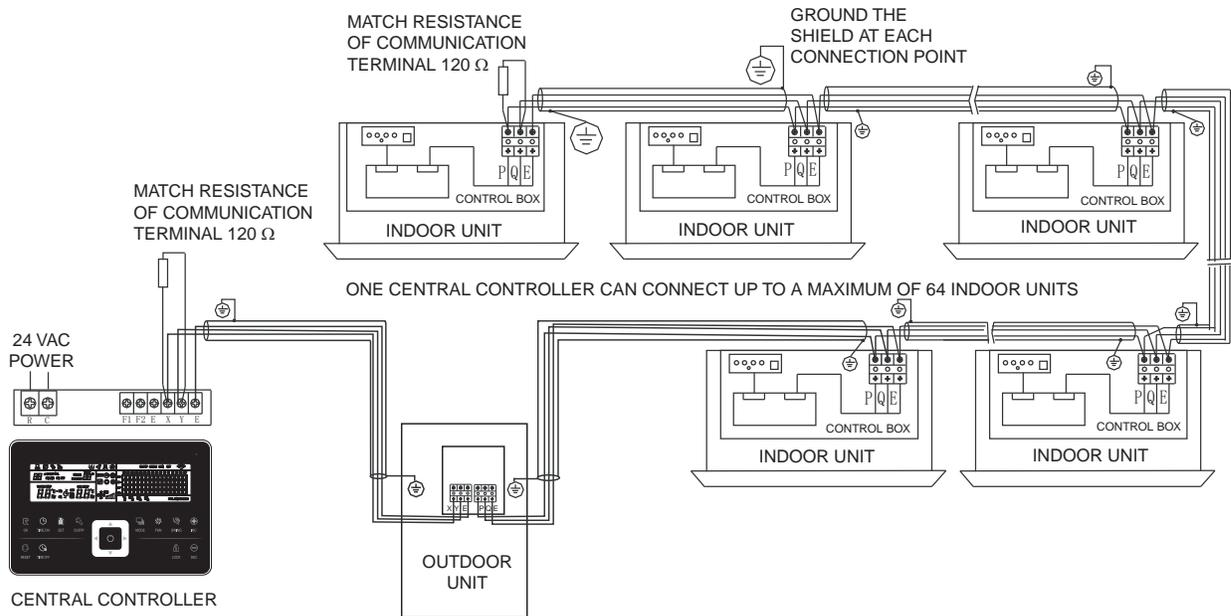

Fig. 6 — Central Controller System Wiring
- See Fig. 6 for complete system central controller wiring diagram.